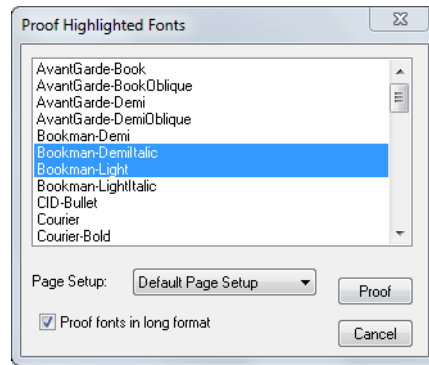

Figure 3.3 Proof Highlighted Fonts dialog box
1. From the **Fonts** menu, choose **Proof Fonts**. A window appears with a list of the available fonts, which the Rasterize-it MultiRIP can use with any of its possible output devices. (See Figure 3.3.)